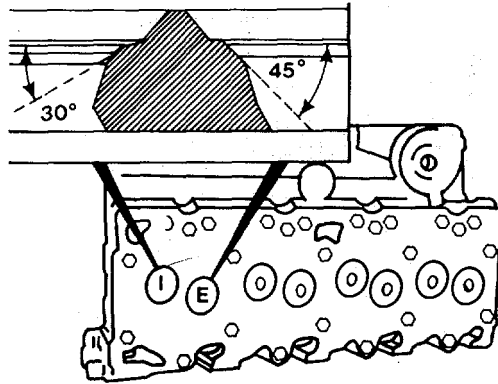

FIGURE 4-17. Checking Seat Angle.
- (3) Grind the valve seat to remove scores, scratches and burns.
- (4) Check seat angle as shown in FIGURE 4-17. Intake: 30 degrees; Exhaust: 45 degrees.